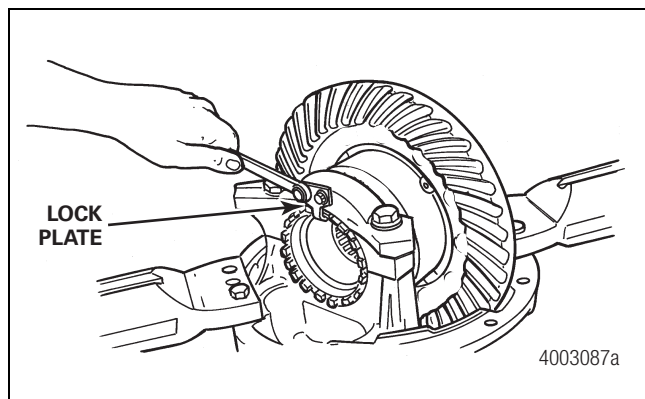

Figure 4.6
1. Remove the lock plate that holds the differential bearing adjusting ring. Figure 4.6.